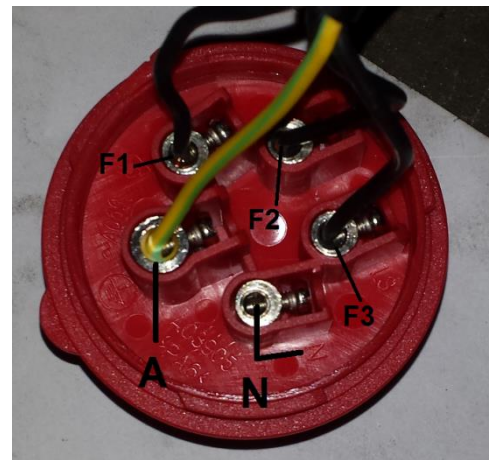

Fig. 1
1. The machine's power cable consists of 4 wires, 1 ground wire (yellow and green) and 3 phase wires (black). The ground wire is connected with the earth connection in the plug (A, fig.1) and the three phase wires should be connected to the first 3 phase connections in the plug (F1, F2 and F3, fig.1). **CAUTION! This machine does not use the 0-connection (N, fig.1)**